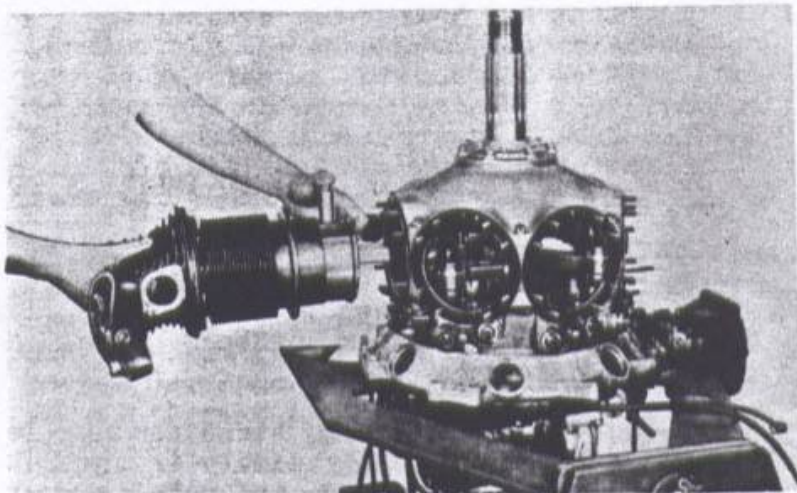

Fig. 22. Method of Assembling Cylinder Assembly to Crankcase
(2) Holding cylinder assembly as shown in Figure 22 line up the piston hole in the piston with the bushing in the rod and inset the piston pin with the stamped end of the pin facing toward the propeller end of the engine.